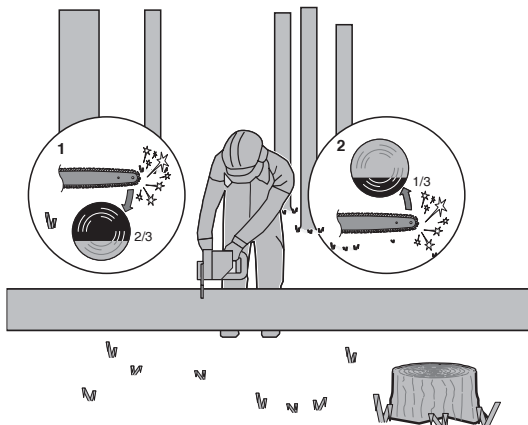

Figure 5
When the log is supported on both ends, as illustrated in Figure 5, cut  $\frac{1}{3}$  the diameter from the top (overbuck) (1). Then make the finished cut by underbucking (2) the lower  $\frac{2}{3}$  to meet the first cut.